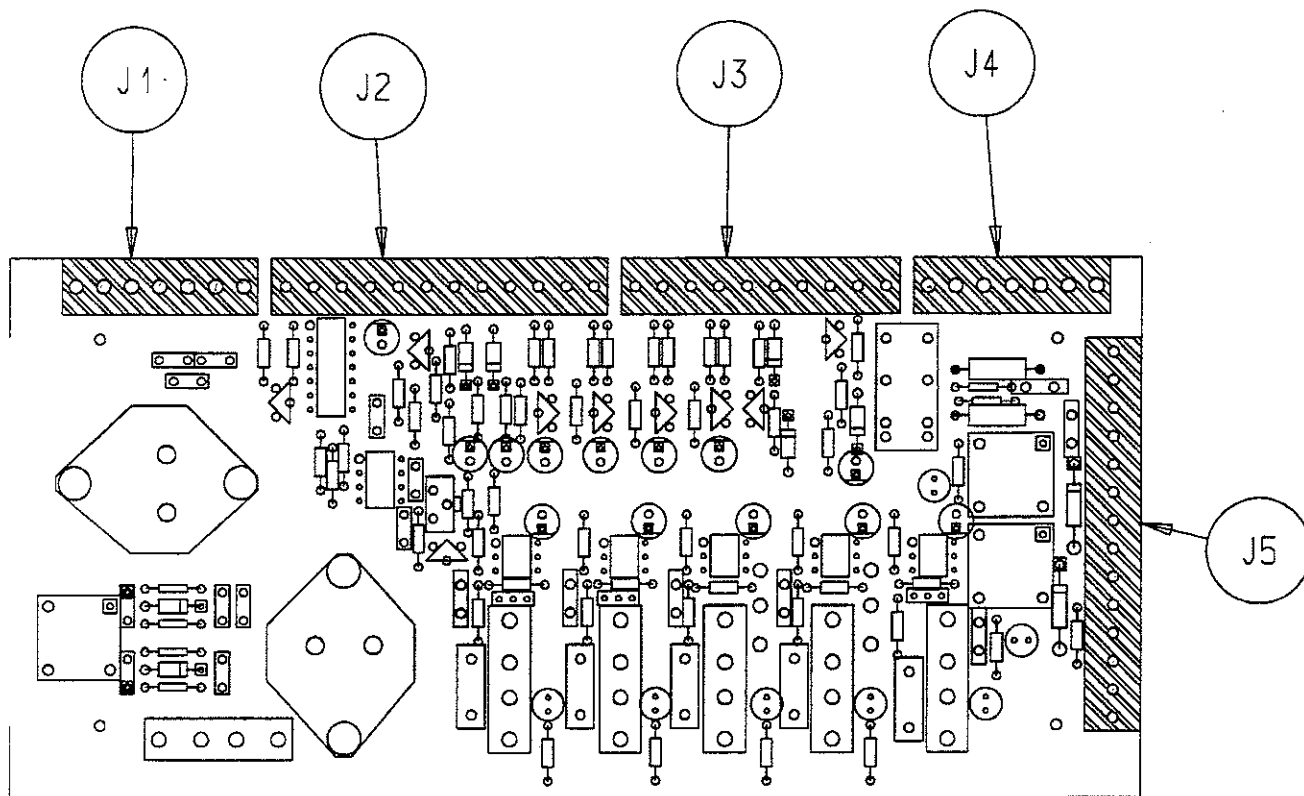

FIGURE 4-11
I.F. Board Connectors (Fig. 4-11)